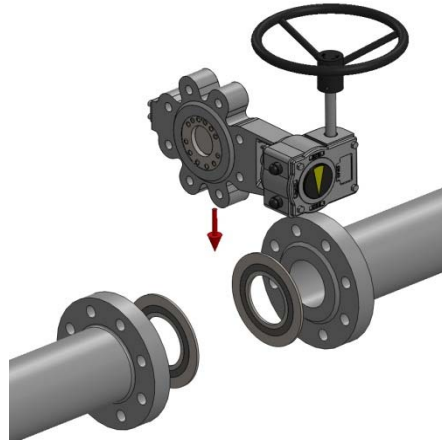

Fig. 2c
- The valve may be installed in the pipeline with the valve shaft in a horizontal, vertical or intermediate position. Where possible it is recommended that the shaft is positioned horizontally as this helps to prevent any dirt or process fluid collecting in and around the bearing cavity. (see fig. 2c)